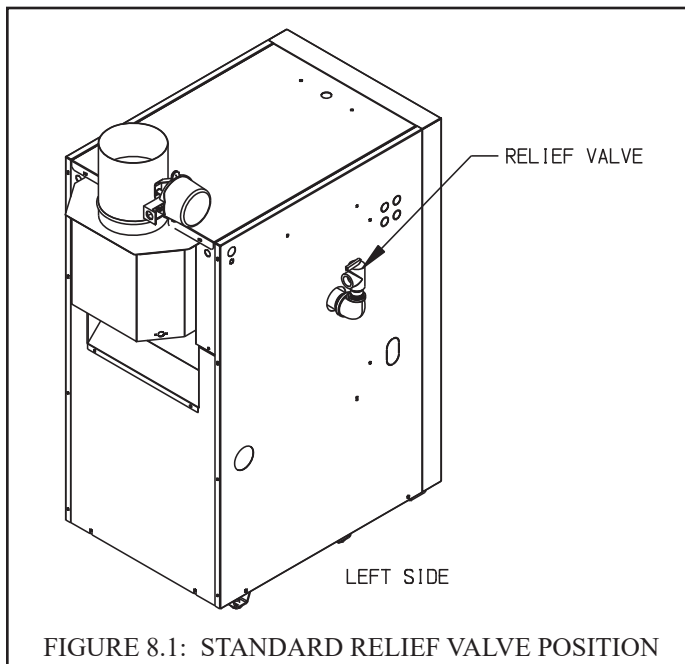

FIGURE 8.1: STANDARD RELIEF VALVE POSITION
- 1) Relief valve (Required) - Mount the relief valve on the left side of the boiler as shown in Figure 8.1 using the 1-1/4 x 4 nipple, 1-1/4 x 3/4 reducing elbow and 3/4 x close nipple provided. The relief valve shipped with the boiler is set to open at 30 psi. This valve may be replaced with one having a pressure up to the “Maximum Allowable Working Pressure” shown on the rating plate. If the valve is replaced, the replacement must have a relief capacity in excess of the DOE heating capacity for the boiler.